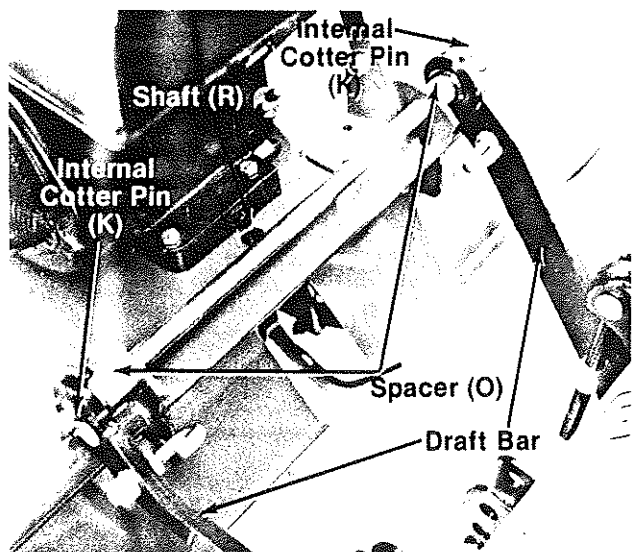

FIGURE 12.
14. Insert tiller mounting shaft through the mounting brackets on the tiller. See figure 12.
15. Place spacers (O) over the ends of the shaft against the mounting brackets. See figure 12.
16. Place the draft bar assemblies onto the shaft and secure with internal cotter pins (K). See figure 12.